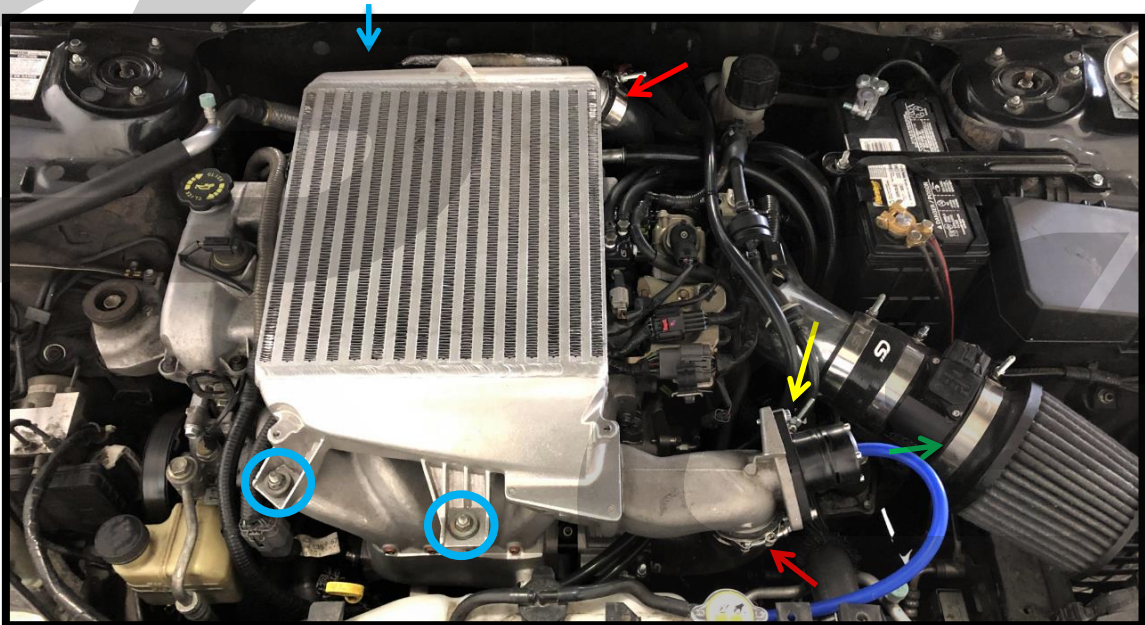

Figure 2b
- b) Loosen the clamps at the inlet and outlet of the intercooler using a 10mm deep socket and ratchet. Clamps shown with **red arrows** in **Figure 2b**.
- c) Remove the three 12mm nuts that bolt the TMIC to the engine. Shown with **blue** in **Figure 2b**.
- d) Remove the BPV hose from your BPV. Shown with blue hose and **green arrow** in **Figure 2b**.
- e) Loosen the BPV recirc hose clamp. Depending on your setup, you may need to use pliers for an OEM spring clamp, or a 10mm socket for an aftermarket clamp. Location shown with **yellow arrow** in **Figure 2b**.